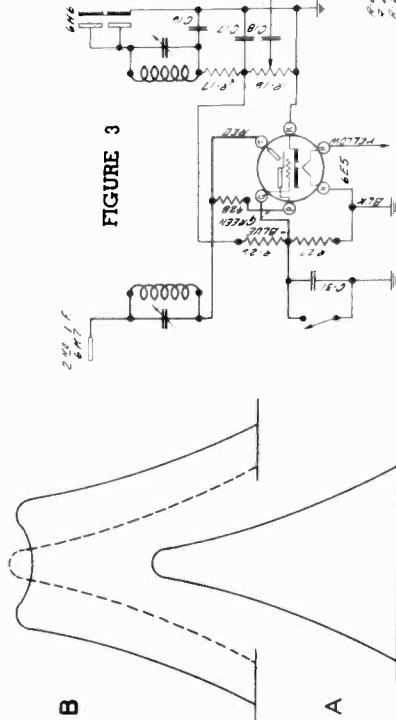

FIGURE 3
THE CATHODE RAY TUNING INDICATOR On some model 110 chassis, an electron ray or cathode ray tube tuning indicator, known as the 6E5, is employed. The connections for this tube are shown in Figure 3.
In the type 6E5, the cathode provides a source of electrons. These are attracted to the positively-charged target (T). (See Figure 3). Electrons impinging on the coated target cause it to glow. The extent of fluorescent area is controlled by means of the "ray-control" electrode which is an extension of the triode plate (P). The voltage on the ray-control electrode is subject to automatic volume control. The voltage on the ray-control electrode is obtained by tapping the A.V.C. circuit between resistors R-26 and R-27 connected in series to ground. Through this arrangement, the grid of the 6E5 tube has half of the control voltage applied to it. The target is connected to the high voltage supply at the same point where the first intermediate frequency tube supply lead is connected.